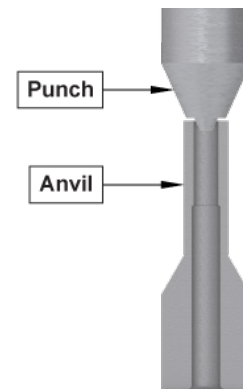

Figure 1: Tool Alignment
3. Align punch and anvil by lowering punch, such that the tip is lightly resting inside the anvil, see Figure 1. This will allow the anvil to center itself with the punch.